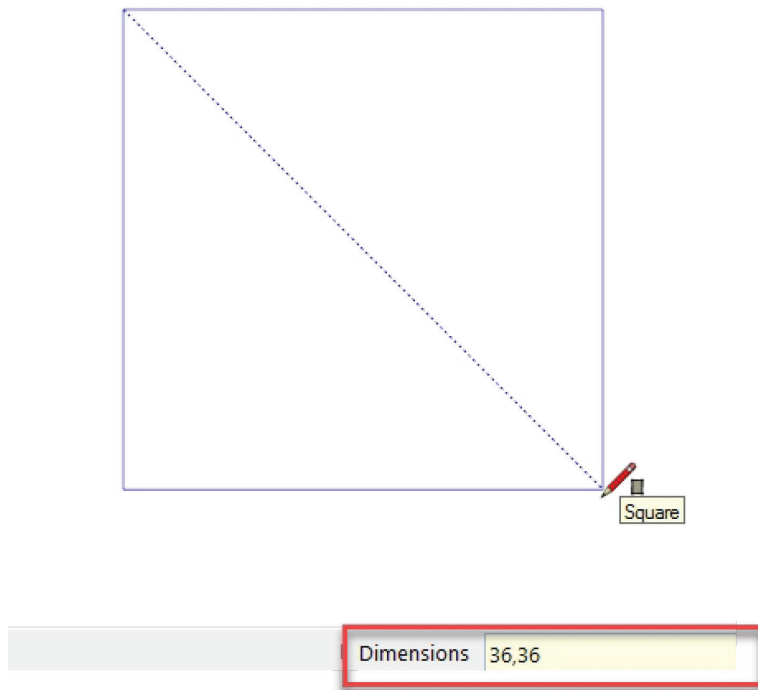

Figure 4.1 Rectangle.
3. Move your mouse to expand the rectangle. An outline will display that reflects the length and width of the rectangle. Now, look at the lower right corner of your screen and notice the Measurements box contains two dimensions, separated by a comma. As you move the mouse/cursor, these dimensions will change, reflecting the X and Y dimensions of the rectangle. Now, type in the Measurements box 36,36 and press Enter (see Figure 4.1). A new face will be created that is exactly $36'' \times 36''$.